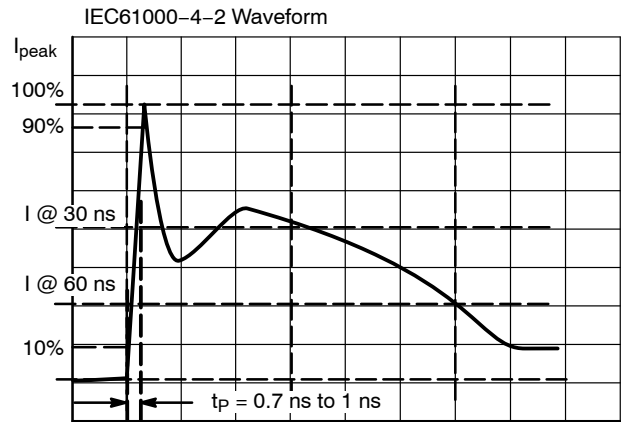

Figure 4. IEC61000-4-2 Spec
- For test procedure see Figures 4 and 5 and application note AND8307/D.